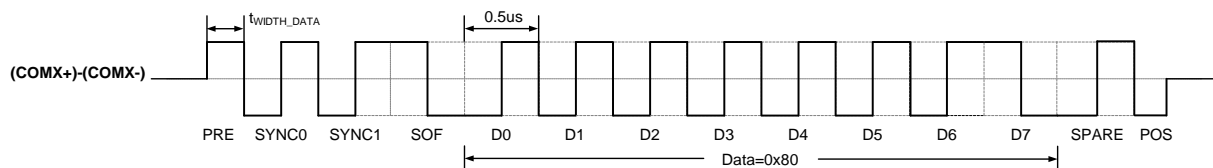

Figure 10-10. Daisy-chain UART Byte Format
The bit sequence of a byte at daisy-chain UART interface is shown in Figure 10-10:
- The PRE/SYNC0/SYNC1/POS bit is a fixed logic, as shown in Figure 10-10.